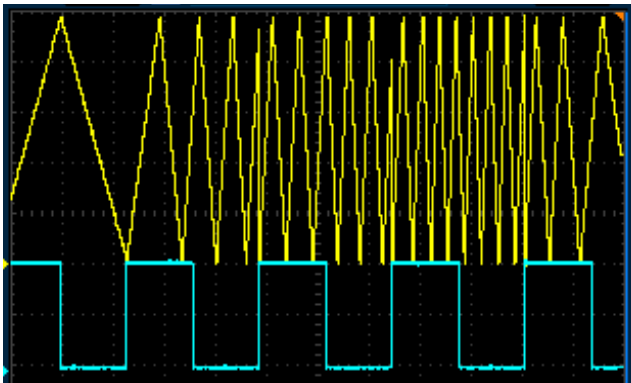

Figure 1A: Changing Div/Mult (with no gate on QNT) Notice the envelopes always start on the ping clock's rising edge
- Changing the Div/Mult amount in the middle of an envelope will have no effect until a ping clock is received, or the divided ping clock timing period renews, or the envelope starts a new rise/fall segment. See Figure 1A.